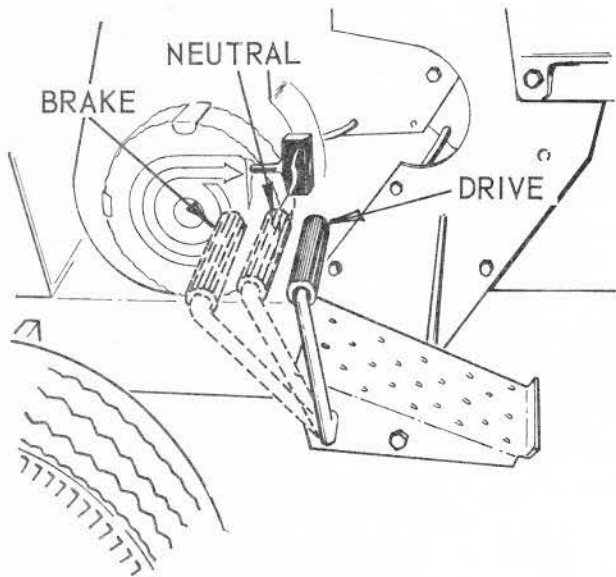
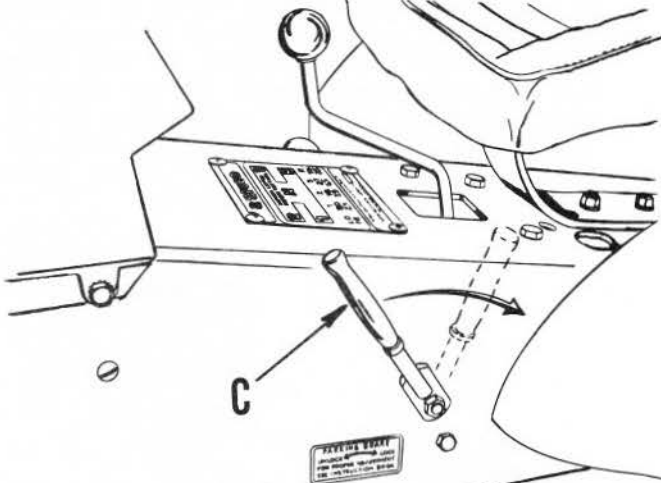

FIG. 2
FIG. 5
- Depress foot pedal, refer to Fig. 2, to neutral position. THIS IS ESPECIALLY HELPFUL IN COLD WEATHER. Release park brake (C, Fig. 5).